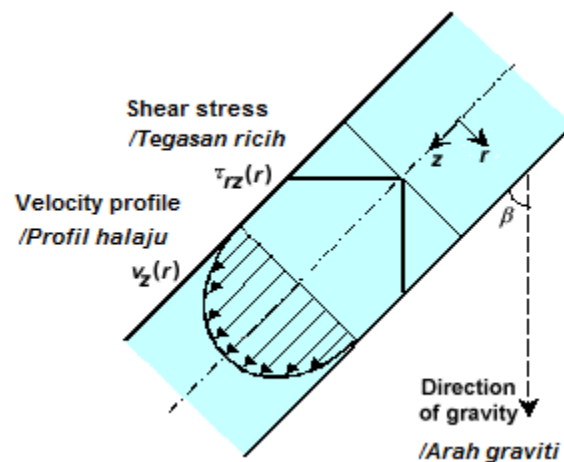

Figure 1 - Fluid flow in circular tube
2. Consider a fluid (of constant density ρ) in incompressible, laminar flow in a tube of circular cross section, inclined at an angle β to the vertical as shown in Figure 1. End effects may be neglected because the tube length L is relatively very large compared to the tube radius R . The fluid flows under influence of pressure difference (Δp) and gravity.